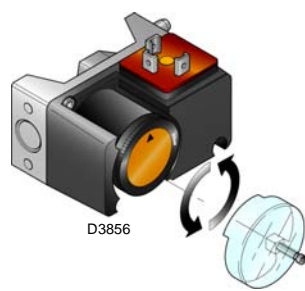

Fig. 22
- Adjust the maximum gas pressure switch (Fig. 22) to the end of the scale.